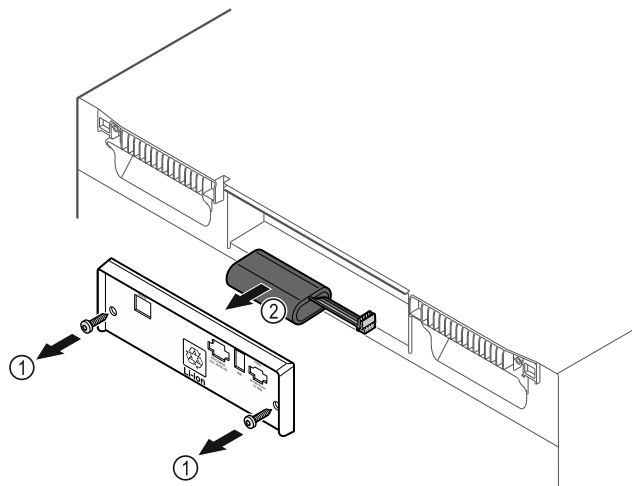

Fig. 185
- Unscrew screws and remove cover from the back of the appliance *Fig. 185 (1)*.
- Disconnect and remove battery *Fig. 185 (2)*.